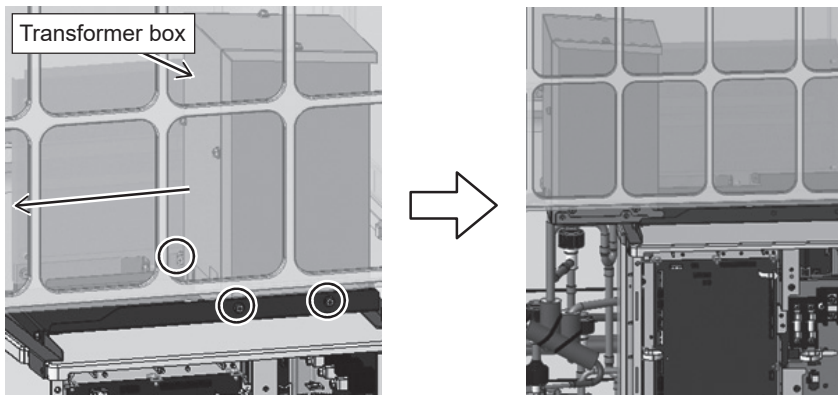

Figure 3
- (4) Unscrew the screw holding the transformer box, and move the box as shown in the figure. (3 screws as shown in Figure 3.)